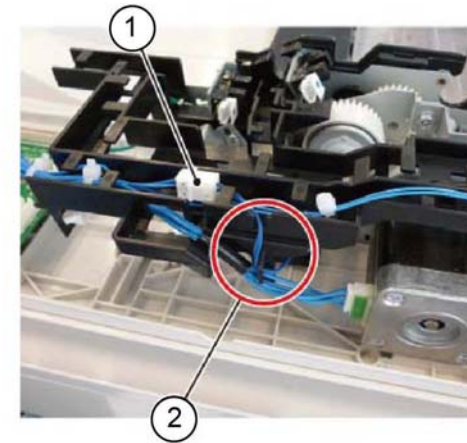

Figure 4 DADF feed clutch harness
7. Disconnect the DADF feed clutch, Figure 4:
- Disconnect the connector (1).
- Remove the harness from the harness guide (2).